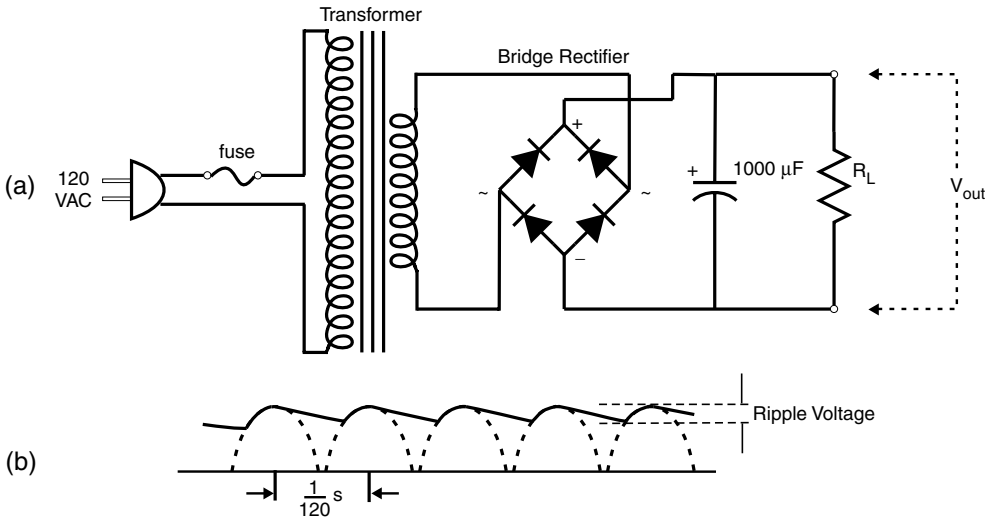

Fig. 3.11. (a) Full-wave rectification with filter capacitor; (b) waveform produced by circuit shown in (a).
- ▷ Add a filter capacitor to the full-wave rectifier as shown in Fig. 3.11(a) – again, be careful not to connect the capacitor backwards. This form of power supply is very common. Measure the average output voltage across the 10 k load. Record the peak-to-peak ripple voltage.